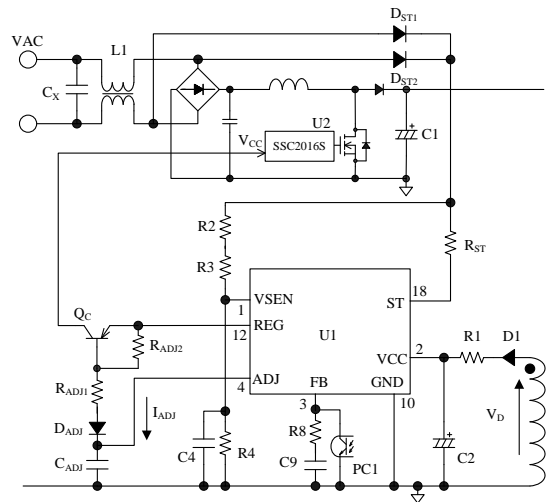
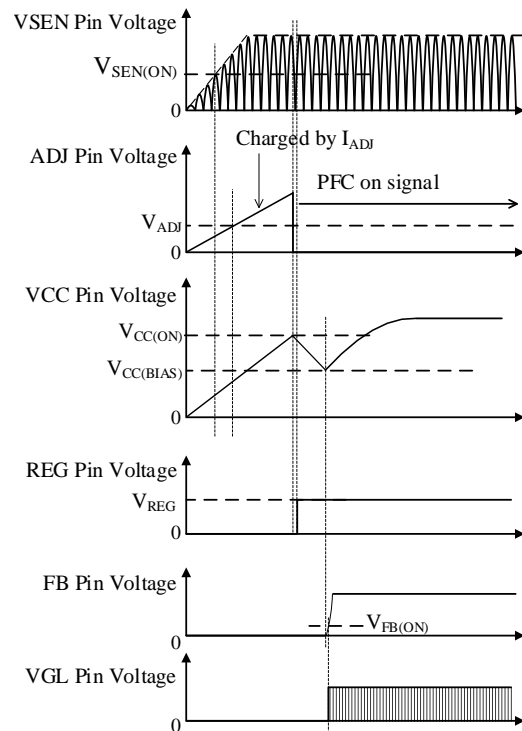

Figure 8-11. VCC Pin Peripheral Circuit When PFC ON/OFF Function is Enabled
Figure 8-12. Startup Operation When PFC ON/OFF Function is Enabled
Figure 8-11 shows the VCC pin peripheral circuit. Figure 8-12 shows the startup operational waveforms.
During the IC operation, the rectified voltage from the auxiliary winding voltage,  $V_D$ , of Figure 8-11 is a power source to the VCC pin.
- The value of C2 in Figure 8-11 is increased and/or the value of R1 is reduced.